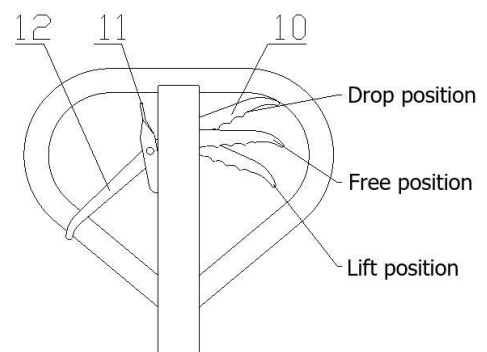

Fig. 5
4.1 After the truck is assembled, try to rock the hand grip and operate different positions of the control handle knob (10) to examine the lifting, free position and dropping and check that whether the different positions are normal or not. See fig. 5.
5.3 See fig. 5, when the control handle knob (10) is placed on the lift position, the truck will be in a state of lift. At this time, if you rock the hand grip, the truck will lift.
5.4 See fig. 5, when the control handle knob (10) is placed on the free position, the truck will travel. At this time, if you rock the hand grip, the truck will neither lift nor drop. You can use the truck to move the cargo.
5.5 See fig. 5, when the control handle knob (10) is placed on the drop position, truck forks will drop automatically. Be careful when lowering the load! See also item 13.2.